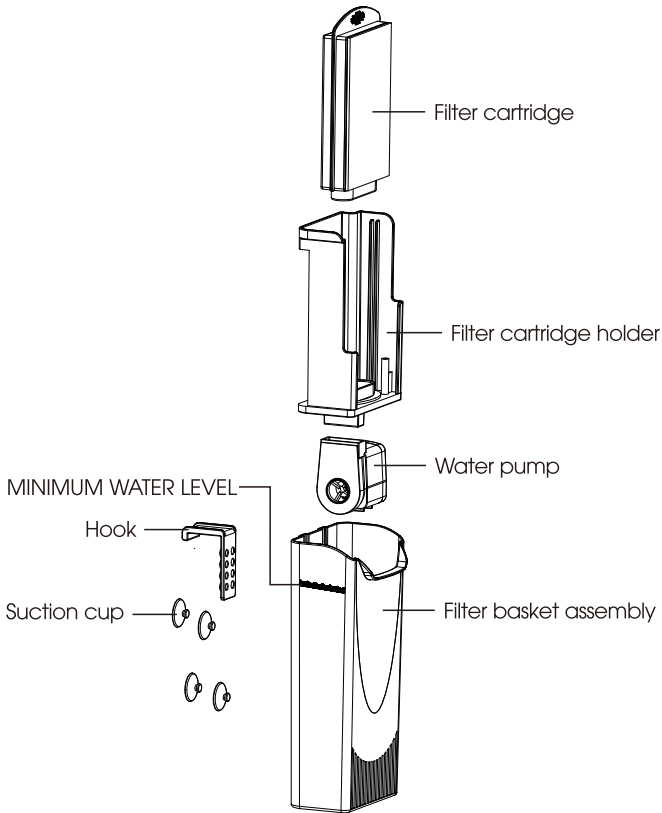
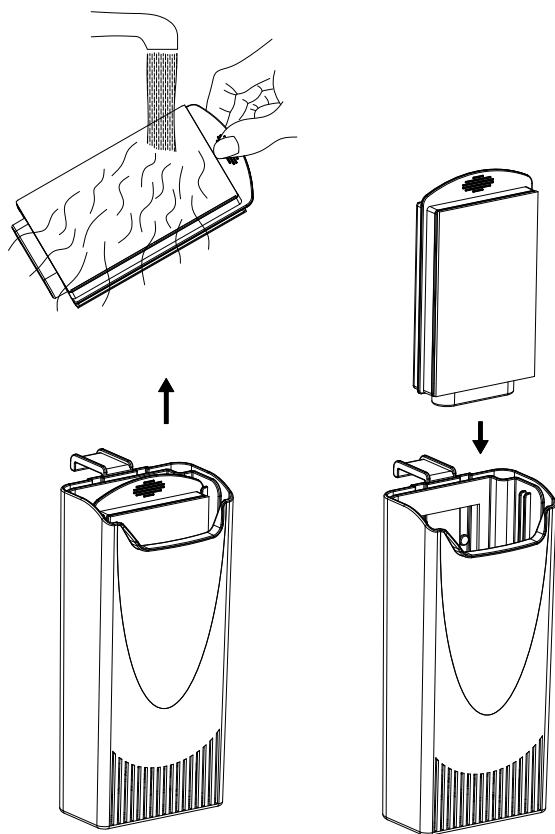

Fig. 1
Fig. 2
2. Check if the filter cartridge, filter basket assembly, and pump are installed properly. Refer to Fig. 1. When installing the filter cartridge, make sure the tab on the filter cartridge is upward.
2. To replace the cartridge, follow the steps below (Fig. 2):
- Disassemble the impeller cover and rotor, rinse with clean water, and reassemble (Fig. 1, Fig. 2).